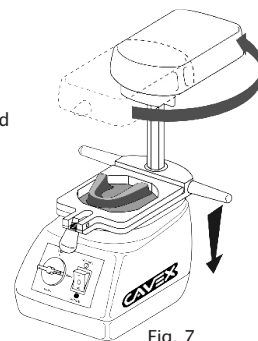

Fig. 7
- Swivel the heating element to the rear again. Switch on the vacuum motor and use the handles (fig. 7) to pull the frame down over the impression. Allow the motor to run until the sheet has cooled.